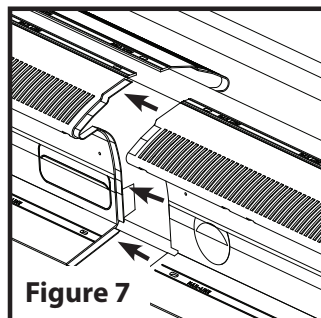
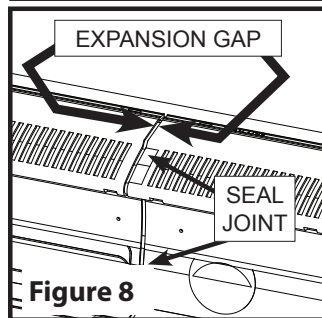

Figure 7
Figure 8
- The TRV-4 design includes alignment tabs on each end (one male and one female). (See Figure 7) Leave 1/8" gap between each vent to allow for expansion in hot weather. (See Figure 8) Apply sealant on each butt joint to ensure the joint is sealed. For ease of installation and proper alignment it is recommended to start and complete one side of the ridge board and begin on the other side going the opposite direction. This will ensure the entire length of TRV-4 is as straight as possible and will prevent leaks.